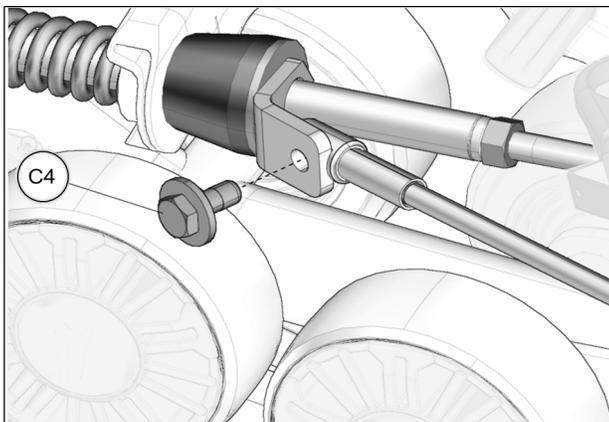

Fig. 27
18. Reverse steering wheel a little to be able to bolt support plate and cable together. Tighten provided bolt (C4) to 35 N•m [24 lb•ft]. See Fig. 27. Repeat steps on right side.